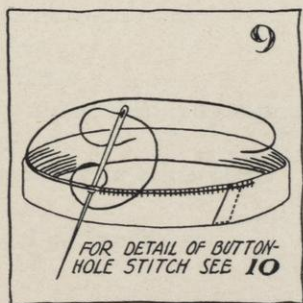

FIG. 9.
- a. Sew the wire with a buttonhole stitch on the outside and the bottom of the headsize band (see Figure 9). Place your stitches close to the wire. The stitches may be $\frac{3}{8}$ inch apart. Be sure to draw each stitch very tight.